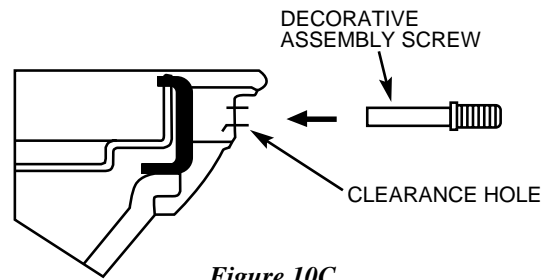

Figure 10C
Secure the globe assembly to the fitter using (3) decorative screws found in sack parts. See Figure 10C.